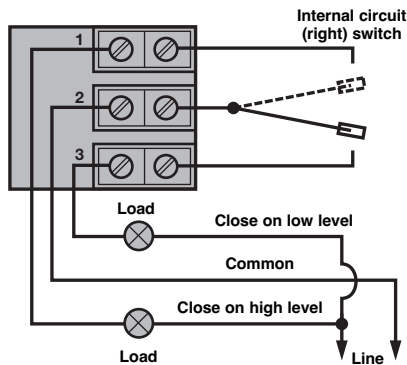

Figure 5
1. Rising level closes contacts 1 & 2, see Figure 5.